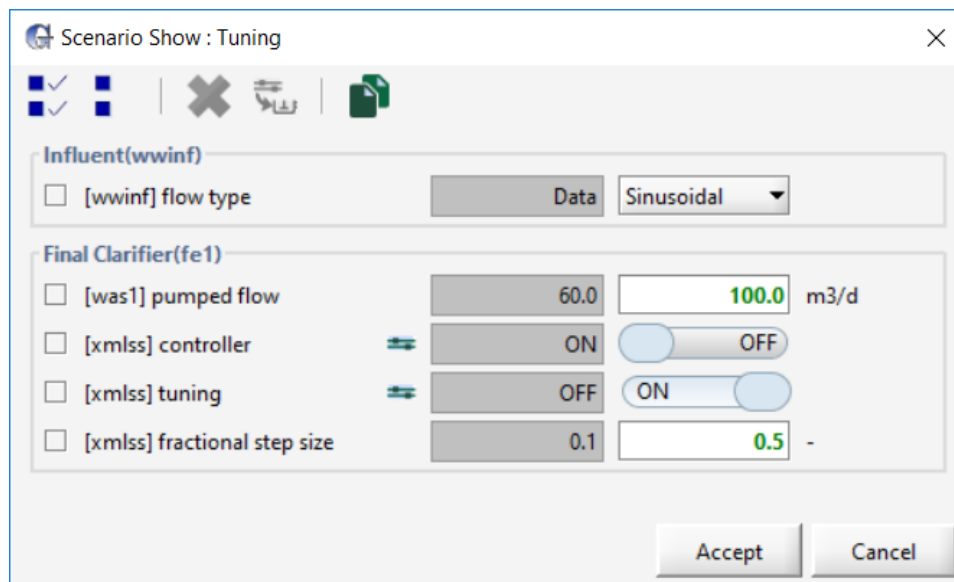

Figure 7-8 – Scenario Show Dialog
25. **Double-check that you have the right settings.** Select *Scenario > Show* from the Simulation Toolbar to see all of the variables that you have changed for this scenario. You should see a dialog similar to **Figure 7-8**.